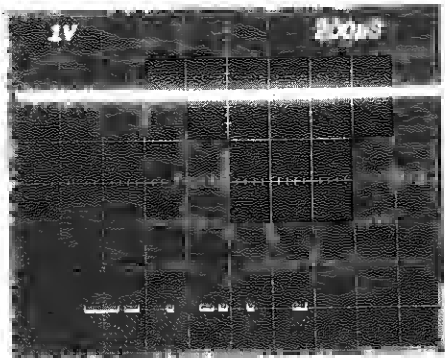

Fig. 4-4
- 3) Push the AX80 keyboard keys, and observe the received MIDI signal waveforms. (See Fig. 4-4)